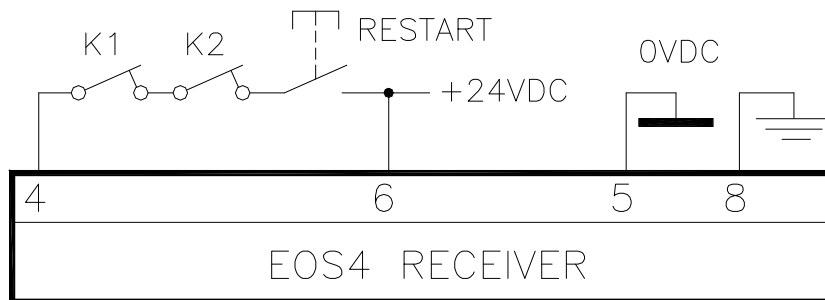

Figure 20 - Manual with K1K2 feedback
- ⚠ In the case of manual operation, the RESTART button in series with the NC contacts (feedback) of the external contactors K1/K2 (Figure 20) must also be present.